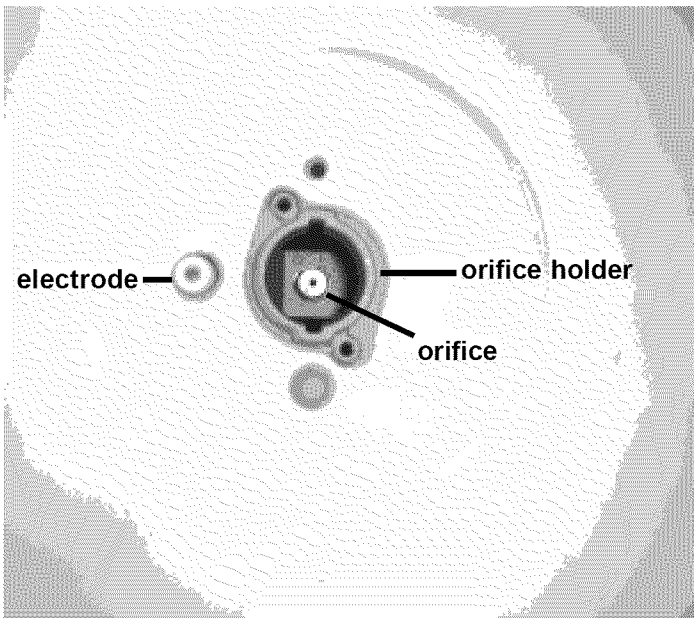

Fig.6a
- Remove 4 factory installed natural gas orifices from the center of the orifice holders using a 7 mm nutdriver (See Figs. 6a & 6b).